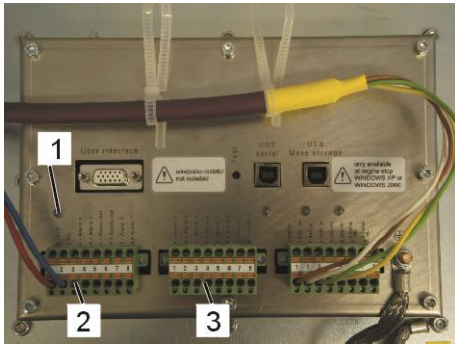

Fig.105: Indication unit
1. Check if the LED (Fig.105/1) on the back of the Indication unit is lighting.
2. If the LED is off measure the voltage at the connectors X11 (Fig.105/2) and X12 (Fig.105/3).